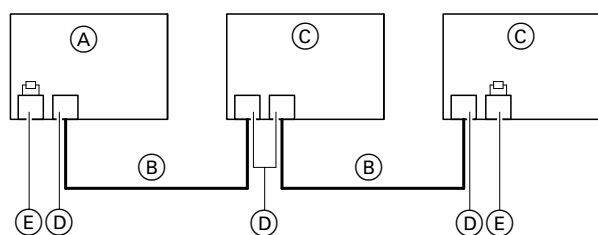

Fig. 50
- The Viessmann CAN bus is designed for "line" bus topology with a terminator at both ends: See Fig. 50.